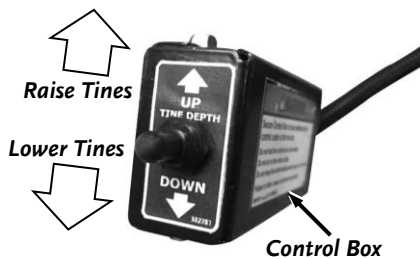

Figure 4
2. Using the Control Box, lower the Tines all the way down, which will raise the Wheel Axles from the pallet (**Figure 4**).